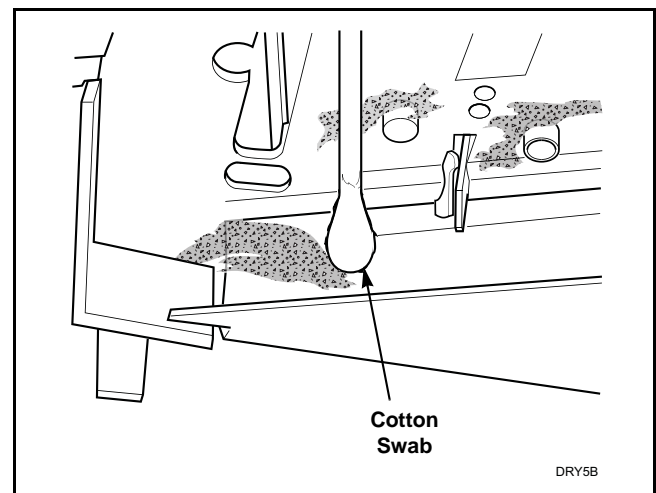

Figure 6
- Check coin path in coin drop for lint and residue. If lint or light residues are present, use a cotton swab to remove. If heavy residue is present, it may be necessary to first scrape off excessive residue and then use a cotton swab dipped in water or isopropyl alcohol (rubbing alcohol) to remove remainder of residue. Refer to *Figure 6*.